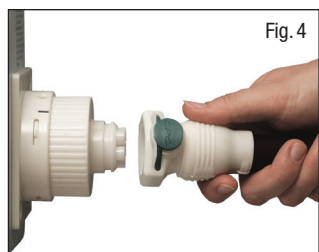

Fig. 4
- Connect the air supply hose from the cushion onto the adaptor, matching up the alignment markings (Fig. 4). Ensure that this has been correctly clicked into place, otherwise a leak may occur.